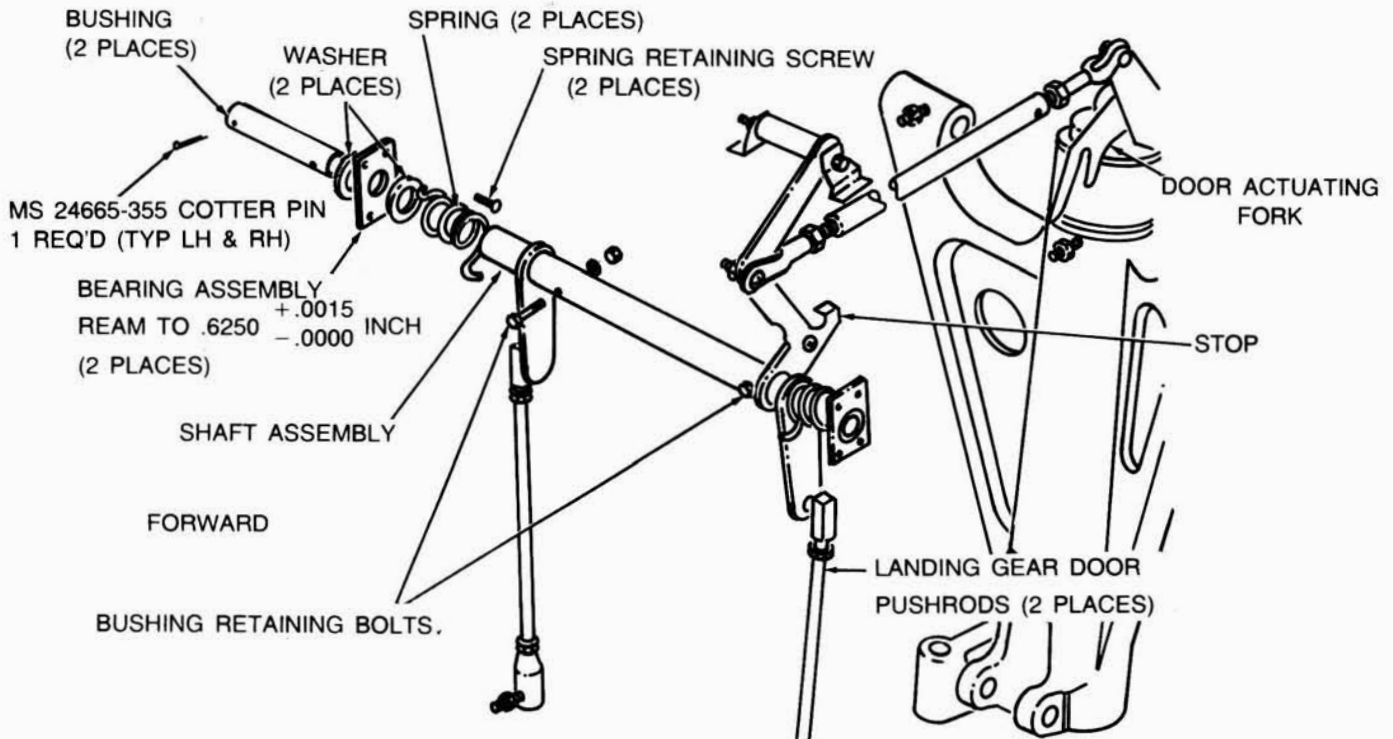

Figure 1
- e. Remove the bushings (refer to Figure 1) by removing the bushing retaining bolts, the spring retaining screws and pulling the bushings outboard. The LH bushing will be removed through the forward nose compartment floor.